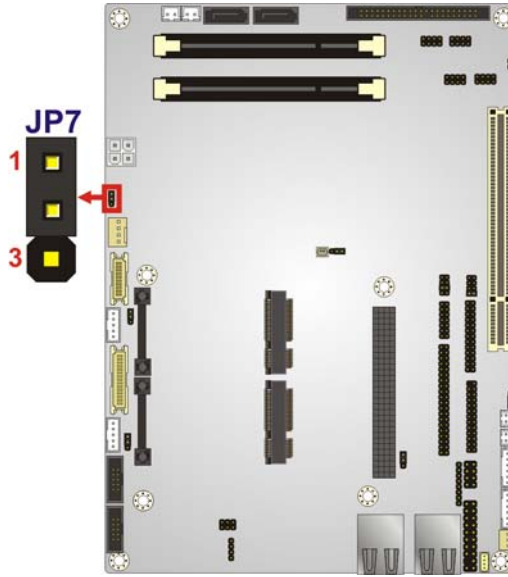

Figure 4-8: CPU Fan Setting Jumper Location
- Jumper Location:** See Figure 4-8